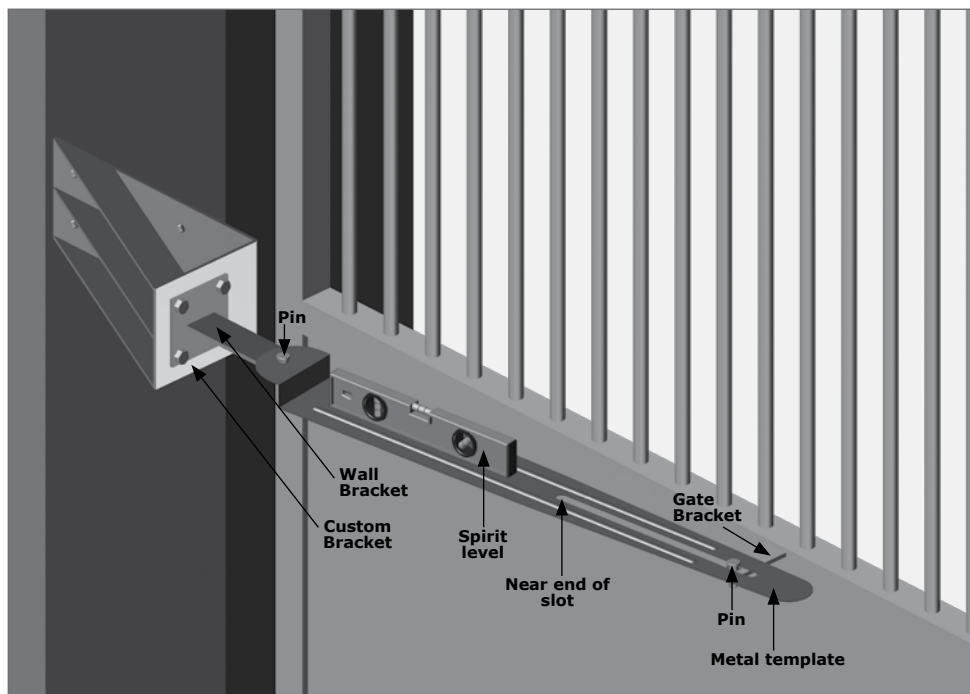

FIGURE 50. MOUNT THE GATE BRACKET
- Holding the Gate Bracket underneath the template (as shown in Figure 50), insert the Pin through the slot in the template and into the Gate Bracket